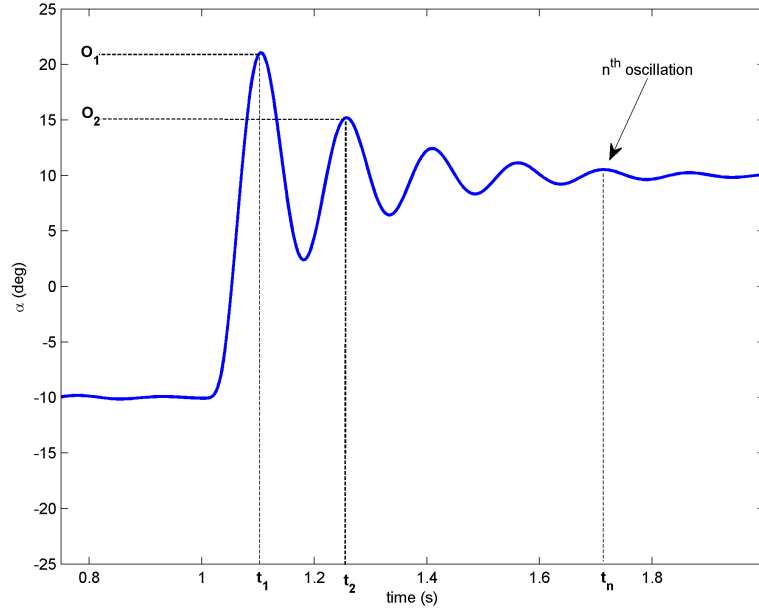

Figure 2.3: Free Oscillation Response
is shown in Figure 2.3. Assuming the initial conditions  $x(0^-) = x_0$  and  $\dot{x}(0^-) = 0$ , the Laplace transform of Equation 2.20 is
8. Find the the natural frequency of the response shown in Figure 2.3 if the peak values for the first and fifth oscillation are:  $t_1 = 1.12$  and  $t_5 = 1.71$  seconds. Because the damping is low, assume the damped and undamped natural frequency are equivalent.